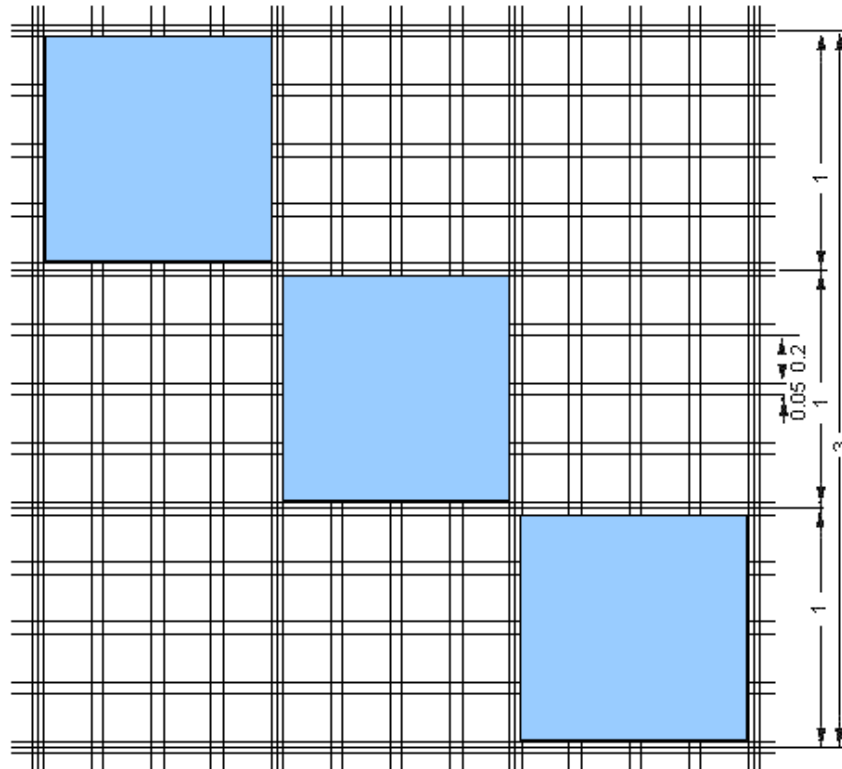

Figure 1. Burkler chamber. One cell in one blue area means 1×10^4 cells/ml. (Source: http://openwetware.org/wiki/IGEM:University_of_Debrecen:_transfection)
4. Count the cells under the microscope in a big square of the Burker-chamber (bordered by three lines) (Figure 1). 1 cell in a big square means 1×10^4 cells/ml.